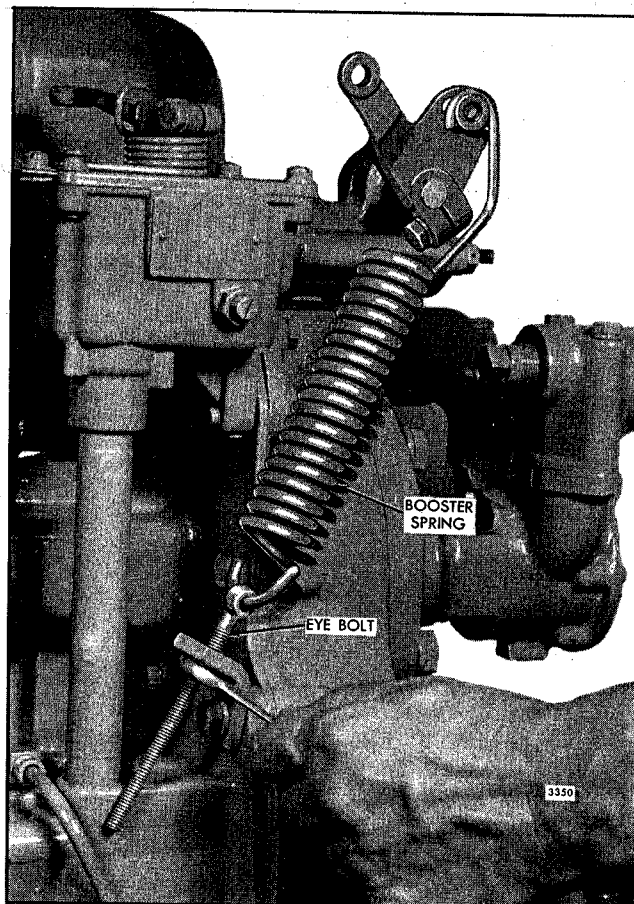

Fig. 14 - Adjusting Booster Spring
1. Refer to Fig. 14 and disconnect the booster spring and the stop lever retracting spring.
2. Refer to Fig. 14 and loosen the booster spring retaining nut on the speed control lever. Loosen the lock nuts on the eye bolt at the opposite end of the spring.